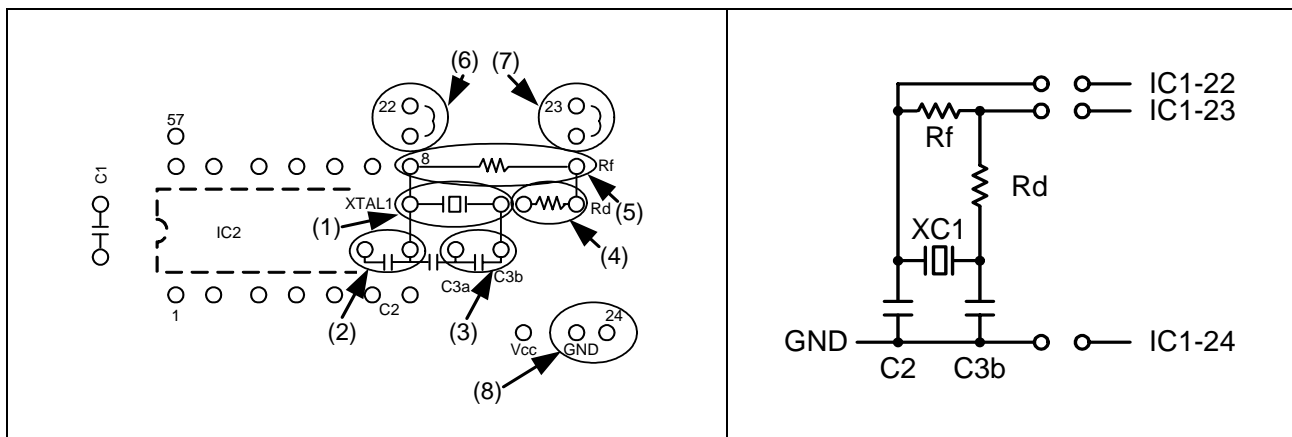

Figure 3 When using 2-pin type oscillator
(2) When using 2-pin type oscillator
When using a 2-pin type oscillator, follow the procedure below (see (1) to (8) in Figure 3).